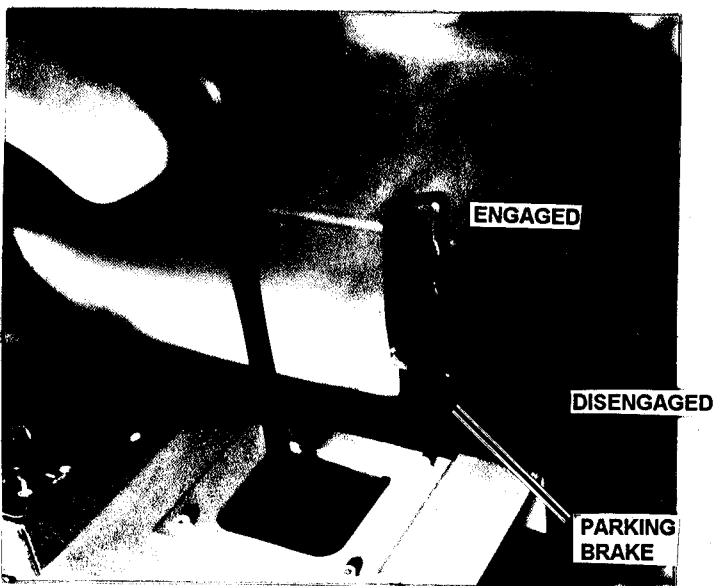

FIGURE 2.4
2. The joystick lever is in the neutral (N) position as shown in Figure 2.4.
3. The parking brake lever is engaged. See Figure 2.4.